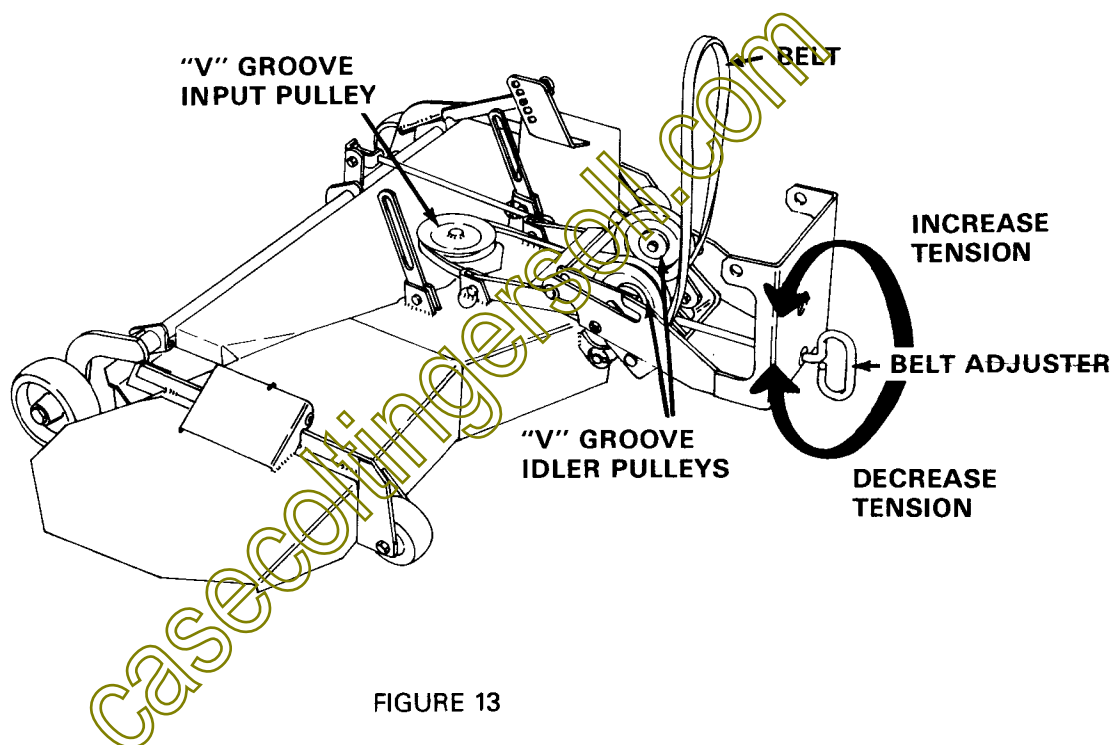

FIGURE 13
- a. make sure the belt is correctly located on each pulley. See Fig. 13.